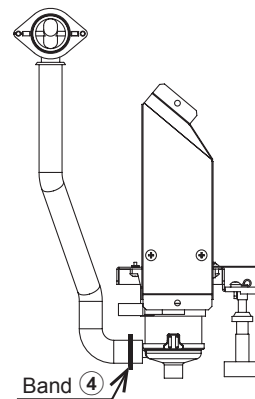

Fig.3-5
- (2) Firmly fix the joint part with band ④ (Fig.3-5)